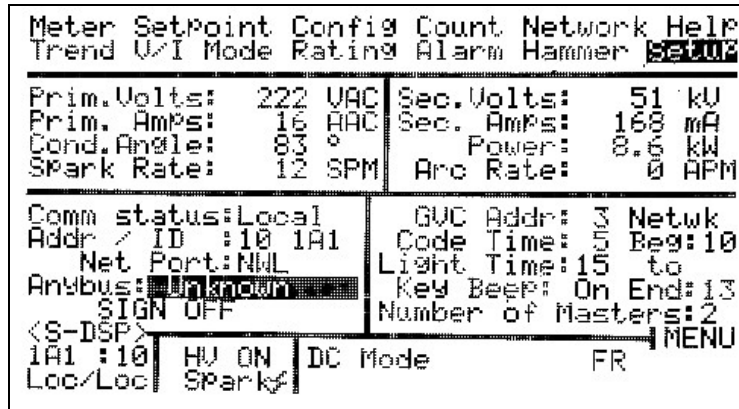

Figure 1-2
When you are connected to the network port, the display will search the network and find all of the units on it. They will be displayed based on the parameters entered in the **Setup** screen (fig. 1-2)
- The network display must have an address that is unique to other displays plugged into network ports. This address is defined by the **GVC Addr** parameter in fig. 1-2. It is selectable from 3 to 9 (A maximum of four network displays can exist on a
- The individual GVC controls on the network must also have unique addresses. These are defined in the **Addr** parameter in fig. 1-2. The ID parameter is a 4 character alpha-numeric designator that can also be assigned to uniquely identify each T/R set being controlled.